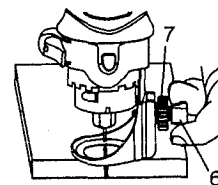

Fig. 5
1. Adjust freehand sole plate depth by loosening the depth gauge locking knob (6) and rotating the adjusting knob (7) to move the sole plate in or out required (see Fig. 5).
4. Adjust depth of freehand sole plate as shown in Fig. 5.
2. Adjust cutting bit depth to $\frac{1}{8}$ " longer than the thickness of the material being cut (see Fig. 5).